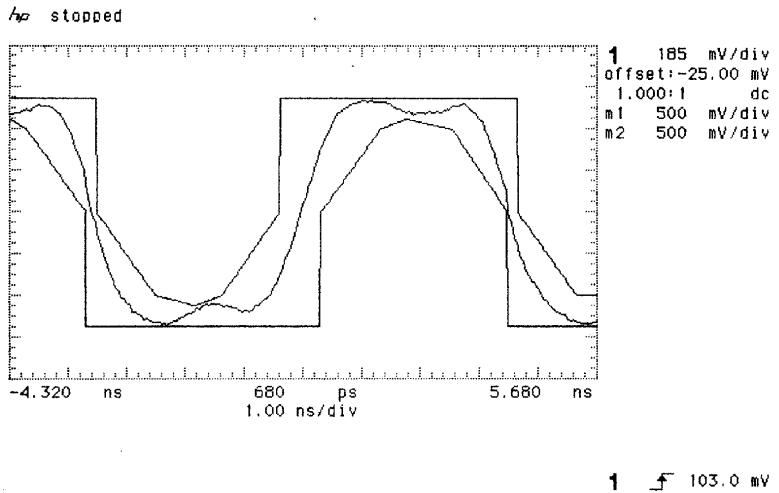

Figure 3-14 140 Mb/s All Zeros Pulse
45. Press SHIFT **AUTOSCALE** on the oscilloscope to automatically align the pulse to the mask. Verify that the pulse falls within the mask as shown in Figure 3-14.